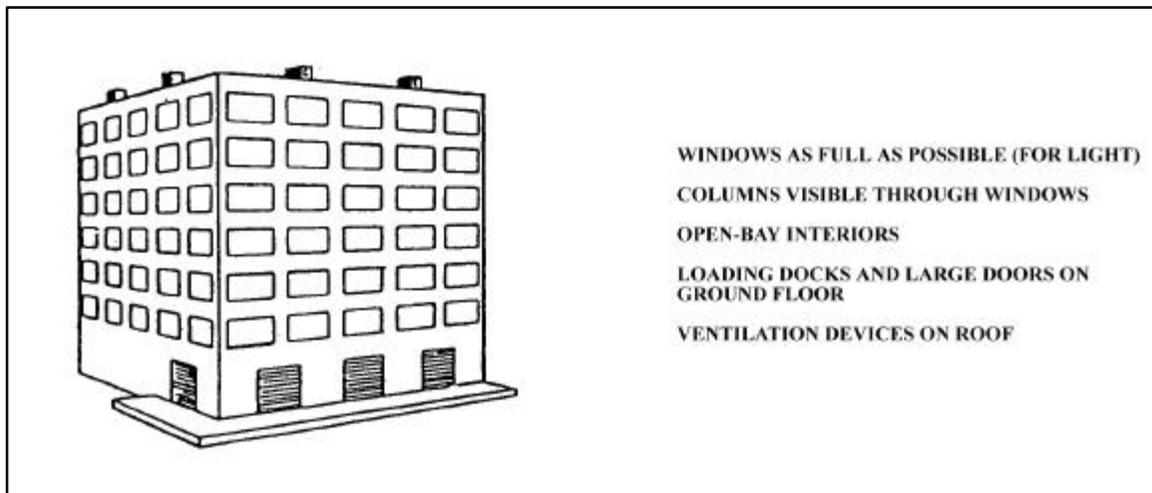

Figure I-13. High-Rise Factory
(3) Another type of heavy-clad framed building is used as a high-rise factory (Figure I-13). Such buildings are normally easily recognized because the concrete beams and columns are visible from the outside. They are usually located in older industrial areas. The large windows and open interior favor the use of ATGMs. Because the floors are often made to support heavy machinery, these buildings provide good overhead cover.